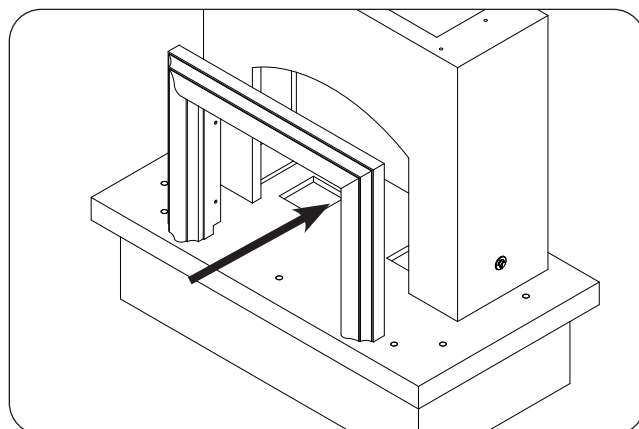

Fig. 22-2 Mount body moulding (if applicable)
1. Locate the moulding for the fireplace opening. Carefully mount the moulding into the opening. See Fig. 22-2.